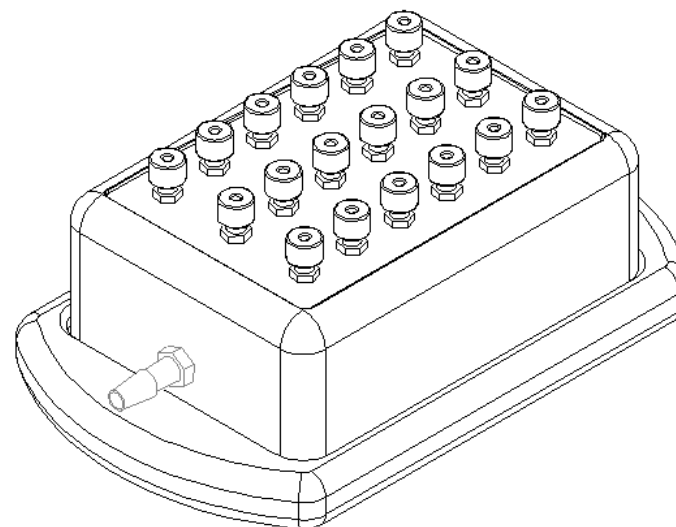

Fig. 1. Aurum vacuum manifold
- Bio-Rad Aurum vacuum manifold with vacuum regulator and column adaptor plate (Cat. #732-6470) or other vacuum manifold with luer fittings (Figure 1):